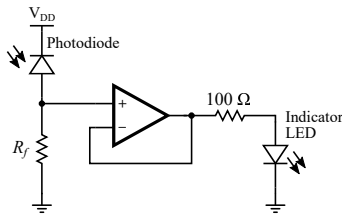

Figure 5: Receiver implementation 1.
- Using the already-built LED transmitter from Section 3.2, build Receiver 1, shown in Fig. 5 with the green LED as the indicator LED. Keep the distance between the photodiode and the LED that will result in photodiode current of $9.32 \mu\text{A}$. Use the R_f resistor value that matches your calculations in the pre-lab. You can use the same supply voltage for the photodiode and the opamp (why?).